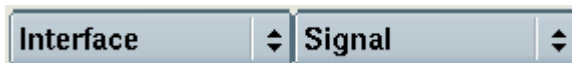

Figure 21 Result Group and Category buttons
- 7 Use the Group and Category buttons to specify the type of results you want to observe. Figure 21 illustrates buttons for a standard SONET application.